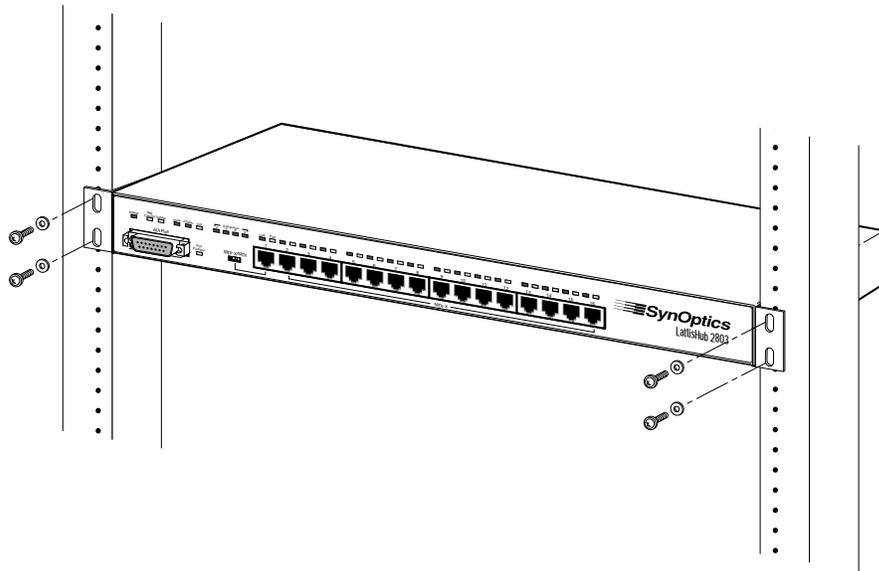

Figure 2-8. Installing Concentrator in Equipment Rack
- a. Hold the concentrator with the mounting holes in the brackets aligned with holes in the rack (see Figure 2-8).